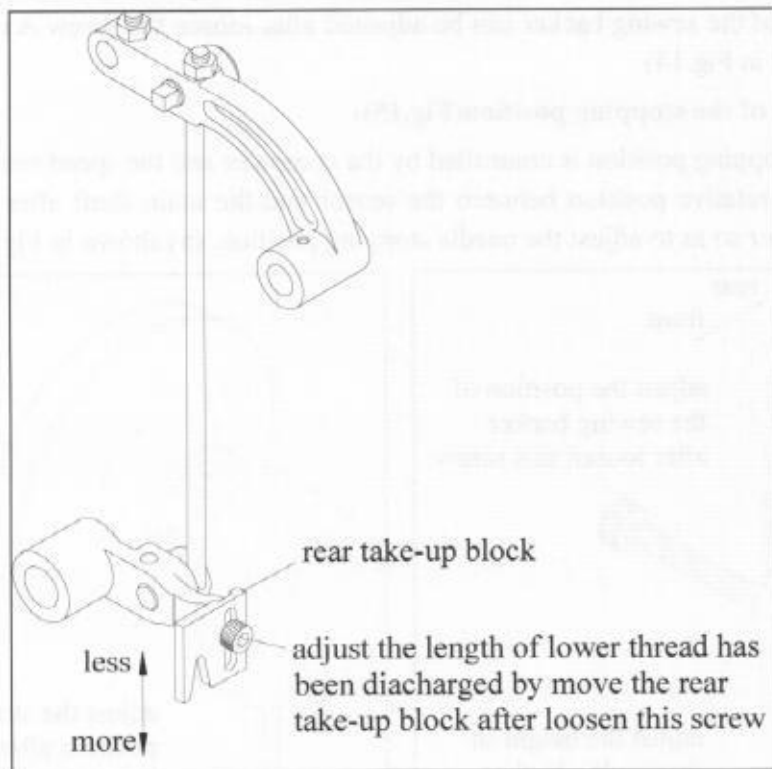

Fig.11
**4.7.5** Loosen the screw A then adjust the height of the rear take-up block to set the length of lower thread has been discharged. (as shown in Fig.11)